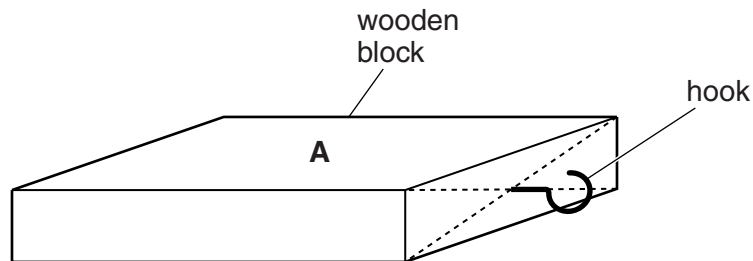

Fig. 4.1
2. The small hook should be screwed into the centre of one of the end faces of the wooden block as shown in Fig. 4.1. The hook should be vertical with the gap upwards when face A is upwards.